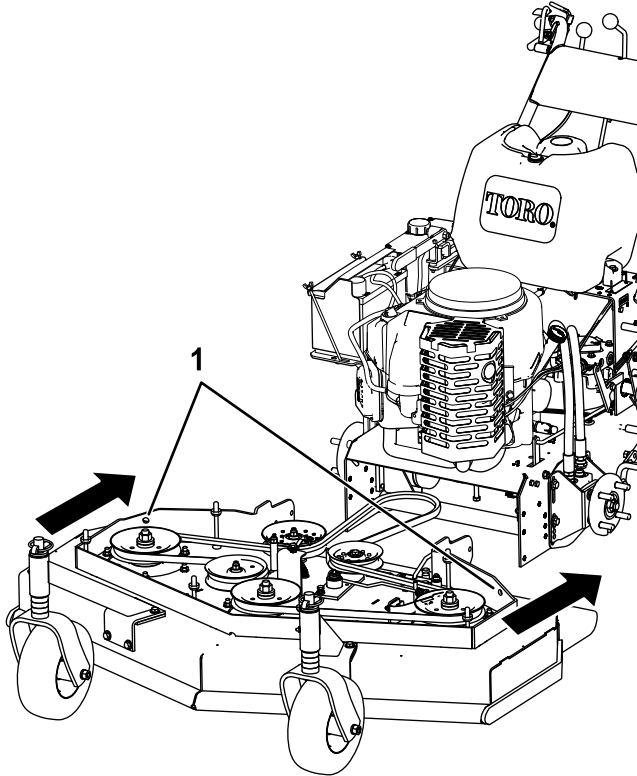

Figure 2
6. Remove the deck cover and the PTO engagement linkage rod before lifting and moving the rotary cutting deck into position against the power unit (Figure 2).